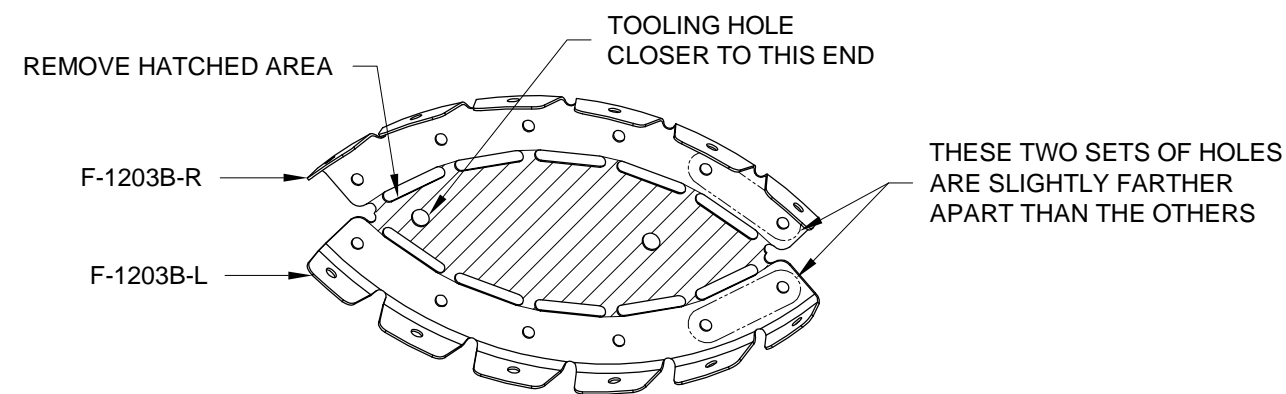

FIGURE 1: SEPARATING F-1203B
Step 1: Separate F-1203B by removing the hatched area shown in Figure 1.